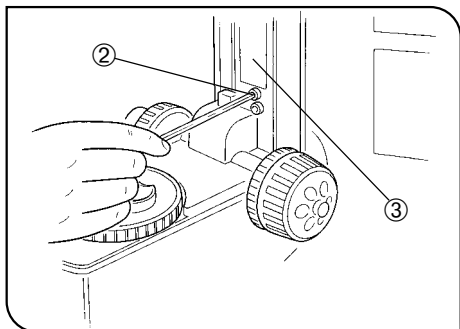

Fig. 16
3. Turn the coarse adjustment knob and raise the focusing block ③ to where the stopper screw ② in the arm becomes visible. (Fig. 16)
4. Using the Allen screwdriver, loosen and remove the upper stopper screw ②.